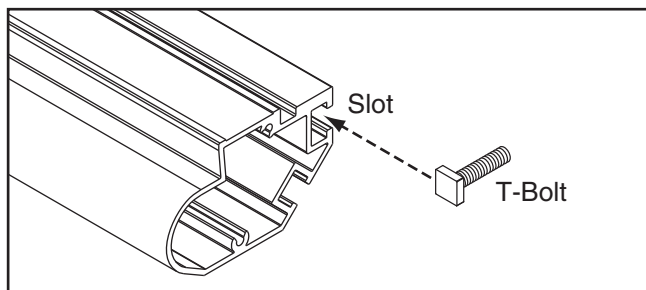

Figure 21. Inserting T-bolt into left rail tube slot.
20. Slide (2) M8-1.25 x 20 T-slot bolts into the slot on the left front rail tube, as illustrated in **Figure 21**.